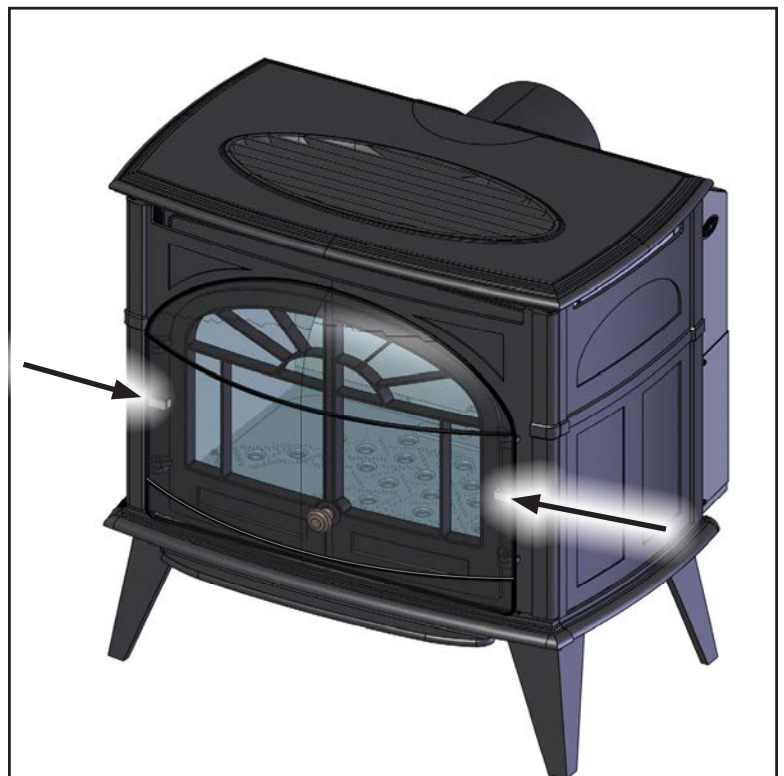

Figure 72: Safety Screen Removal
2. Push the sides of the safety screen inwards, towards each other, to release the spring clips and remove the safety screen (see figure 72).